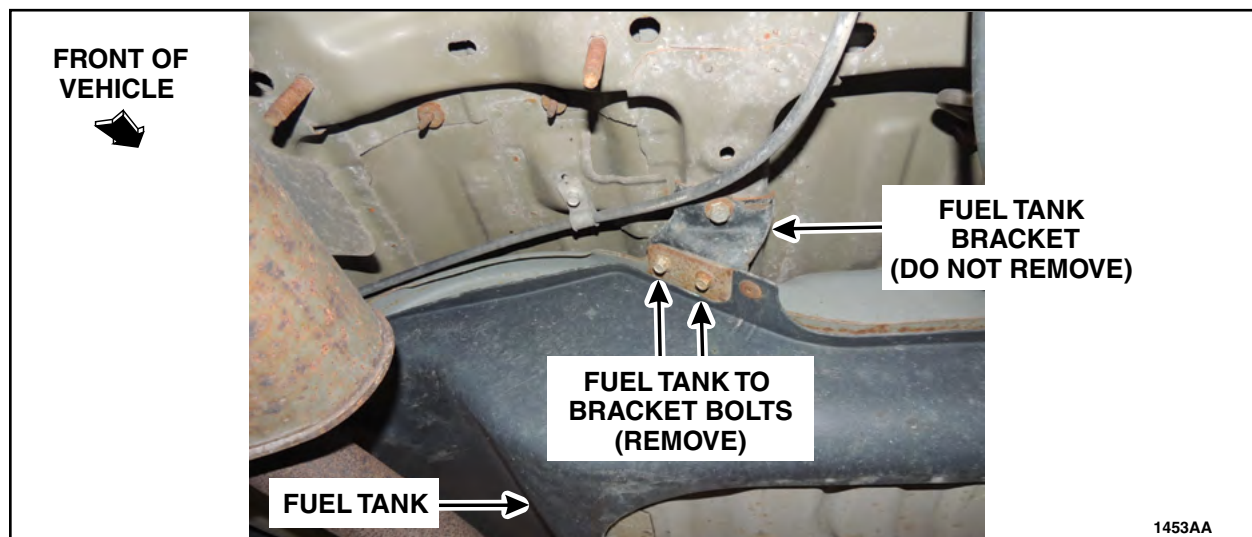

FIGURE 4
- a. Remove and discard two (2) bolts attaching the fuel tank to the fuel tank brackets at both the front center and rear center of the tank (four (4) bolts total). Leave the brackets attached to the vehicle. See Figure 4.
- b. Remove and discard the four (4) bolts (one at each corner) attaching the fuel tank to the body.
3. Install the four (4) *new* fuel tank to bracket bolts. See Figure 4.
4. Position the parking brake cables and install the two (2) parking brake cable bracket bolts.